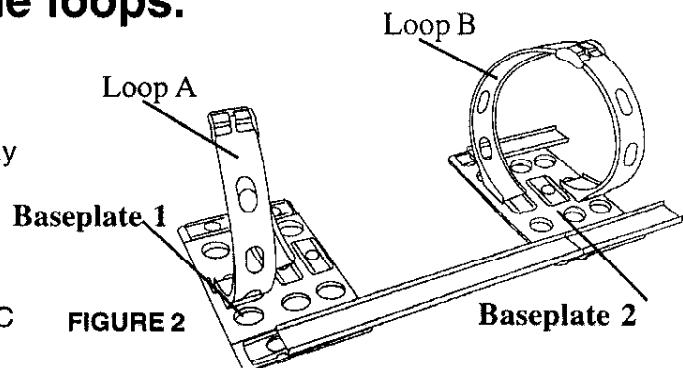

FIGURE 2
- Select 2 of the loops you made in STEP ONE of these instructions. Take the first loop, **LOOP A** and attach it to **baseplate 1** by sliding the open ends of the loop halfway over the built in loop joiners as shown in **FIGURE 2**. Now take the second loop, **LOOP B**, and attach it to **baseplate 2** as shown in **FIGURE 2**.